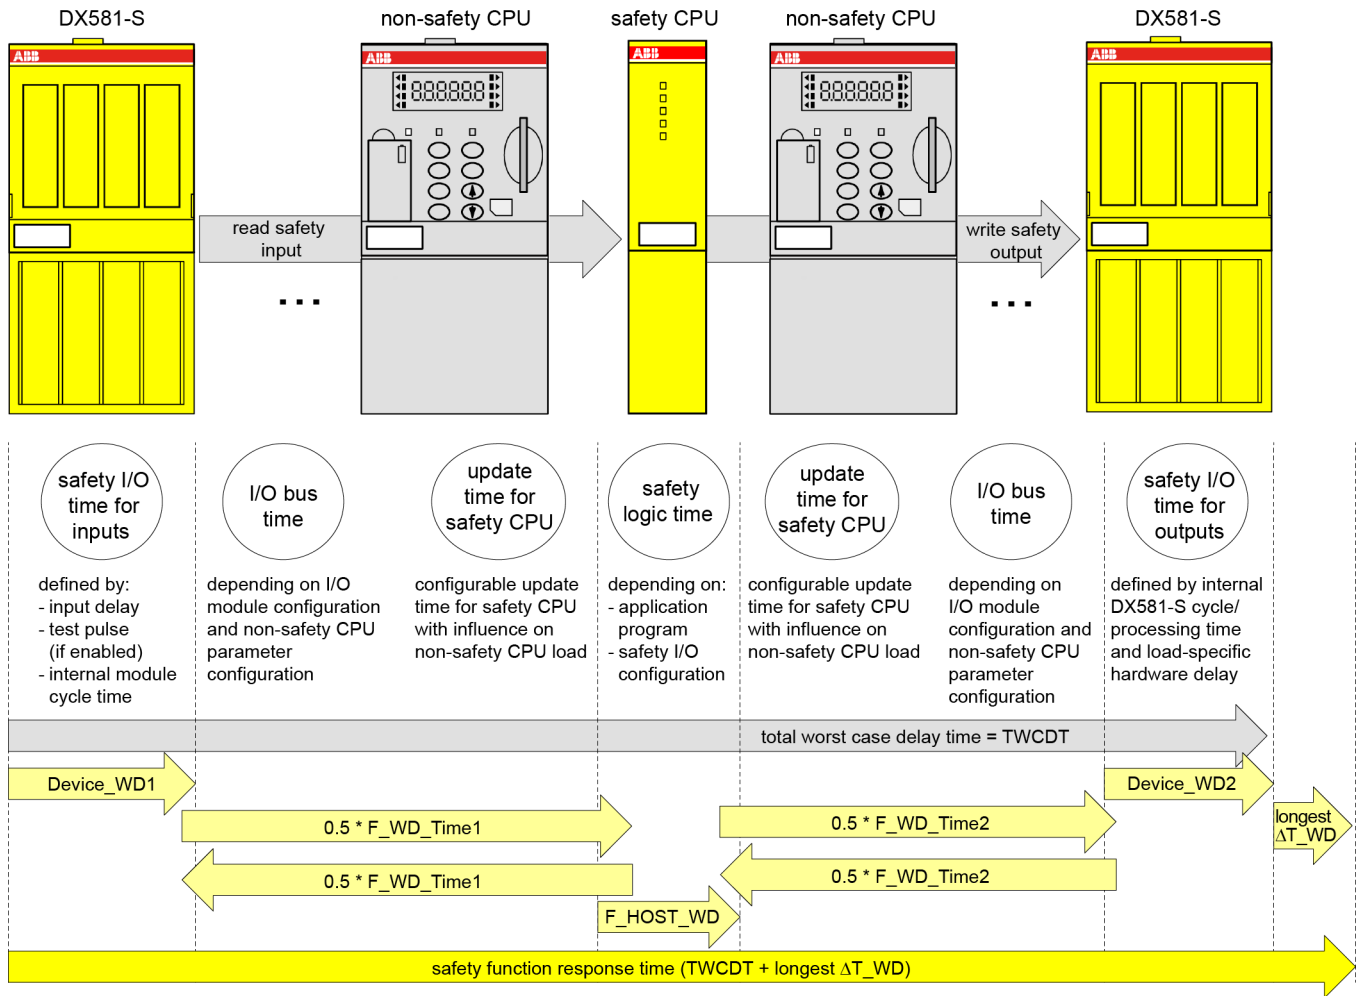
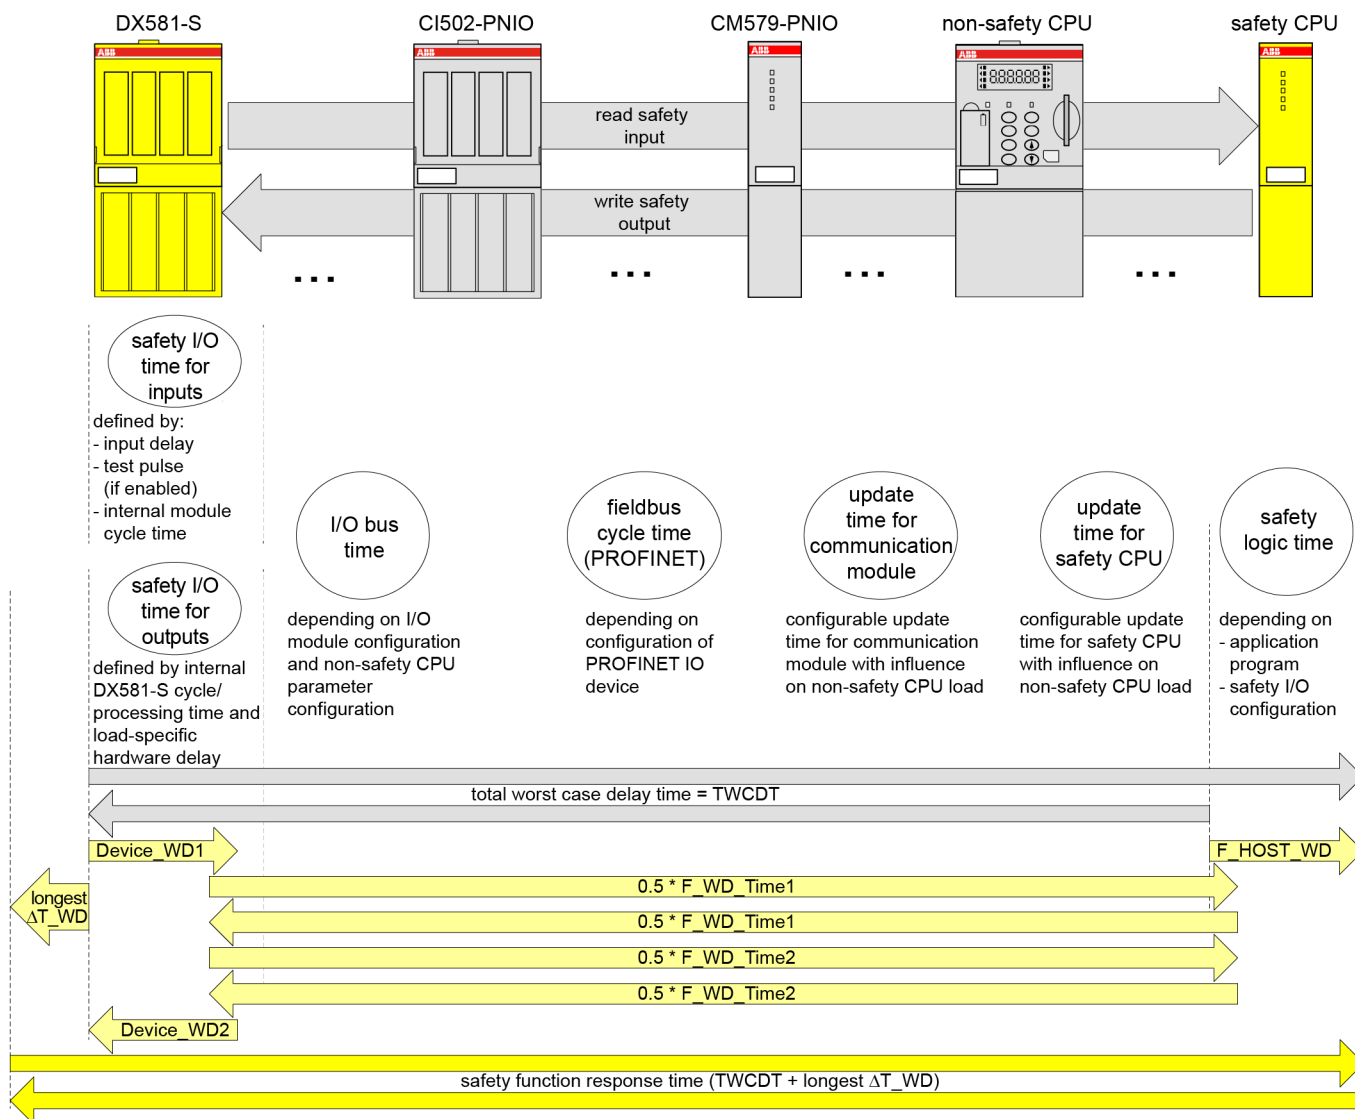
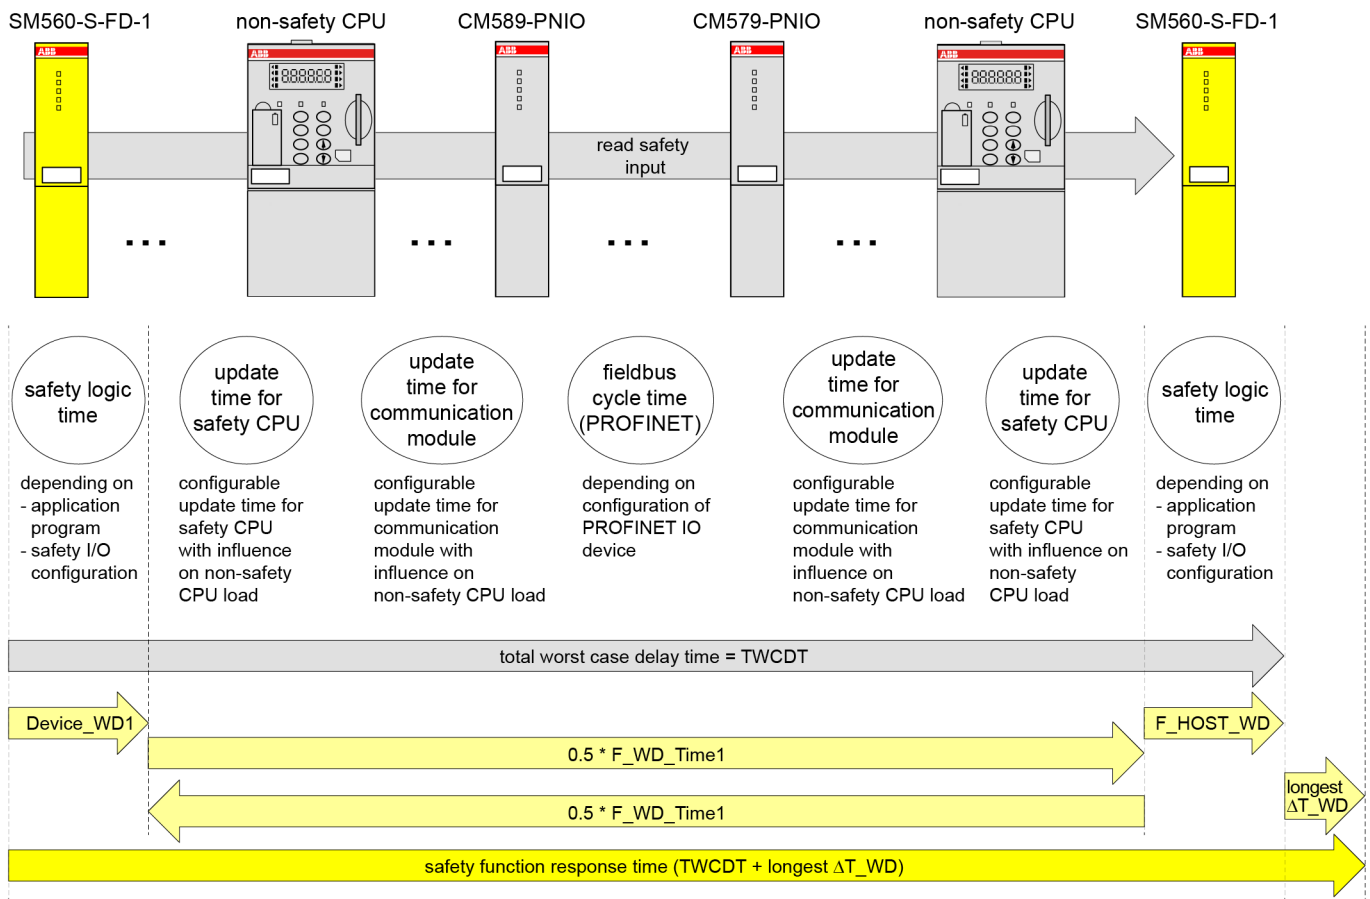

Fig. 123: SFRT in AC500-S system without PROFINET components
Fig. 124: SFRT in AC500-S system with PROFINET components and safety I/O modules
Fig. 125: SFRT in AC500-S system with PROFINET components and safe CPU to CPU communication (example: SM560-S-FD-1 to SM560-S)
Fig. 123, Fig. 124 and Fig. 125 explain SFRT in more details. The model in Fig. 123 and Fig. 124 includes the stages of input signal reading, safe data transfer, safe logic processing, safe data transfer and safe signal output. The model in Fig. 125 presents safe CPU to CPU communication, which includes the stages of safe logic processing, safe data transfer and safe logic processing.
The following terms are defined in Fig. 123, Fig. 124 and Fig. 125 (in alphabetical order):
- Device_WD1 and Device_WD2, as worst case delay times for safety I/Os, can be defined as it is shown in Fig. 123 and Fig. 124.
- To calculate the worst case delay time of "Black channel" components (refer to AC500 non-safety modules in Fig. 123 and Fig. 124), we propose to use half of F_WD_Time1 and F_WD_Time2 instead. F_WD_Time1 and F_WD_Time2 can be empirically obtained for the given AC500 system configuration by tracing the values of tResponseTimeMS for given safety I/Os in the safety application. Use PROFIsafe instance for the given safety I/O ↳ Chapter 4.6.3 "SafetyBase_PROFIsafe_LV210_AC500_V22.lib" on page 198. F_WD_Time1 and F_WD_Time2 shall be set about 30 % higher than the worst case value observed in the tResponseTimeMS for the given safety I/O.
Based on Fig. 123, Fig. 124 and Fig. 125, the following exemplary SFRT values can be achieved for some typical AC500-S configurations using Equation 2 on page 337: